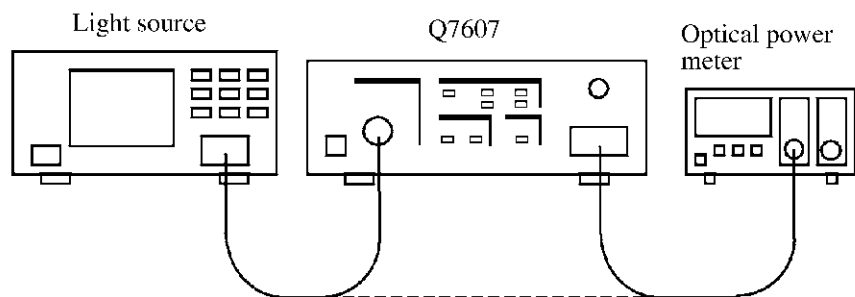

Figure 4-2 Setup for Measuring a Optical Output Power
1. Connect equipment as shown in Figure 4-2.